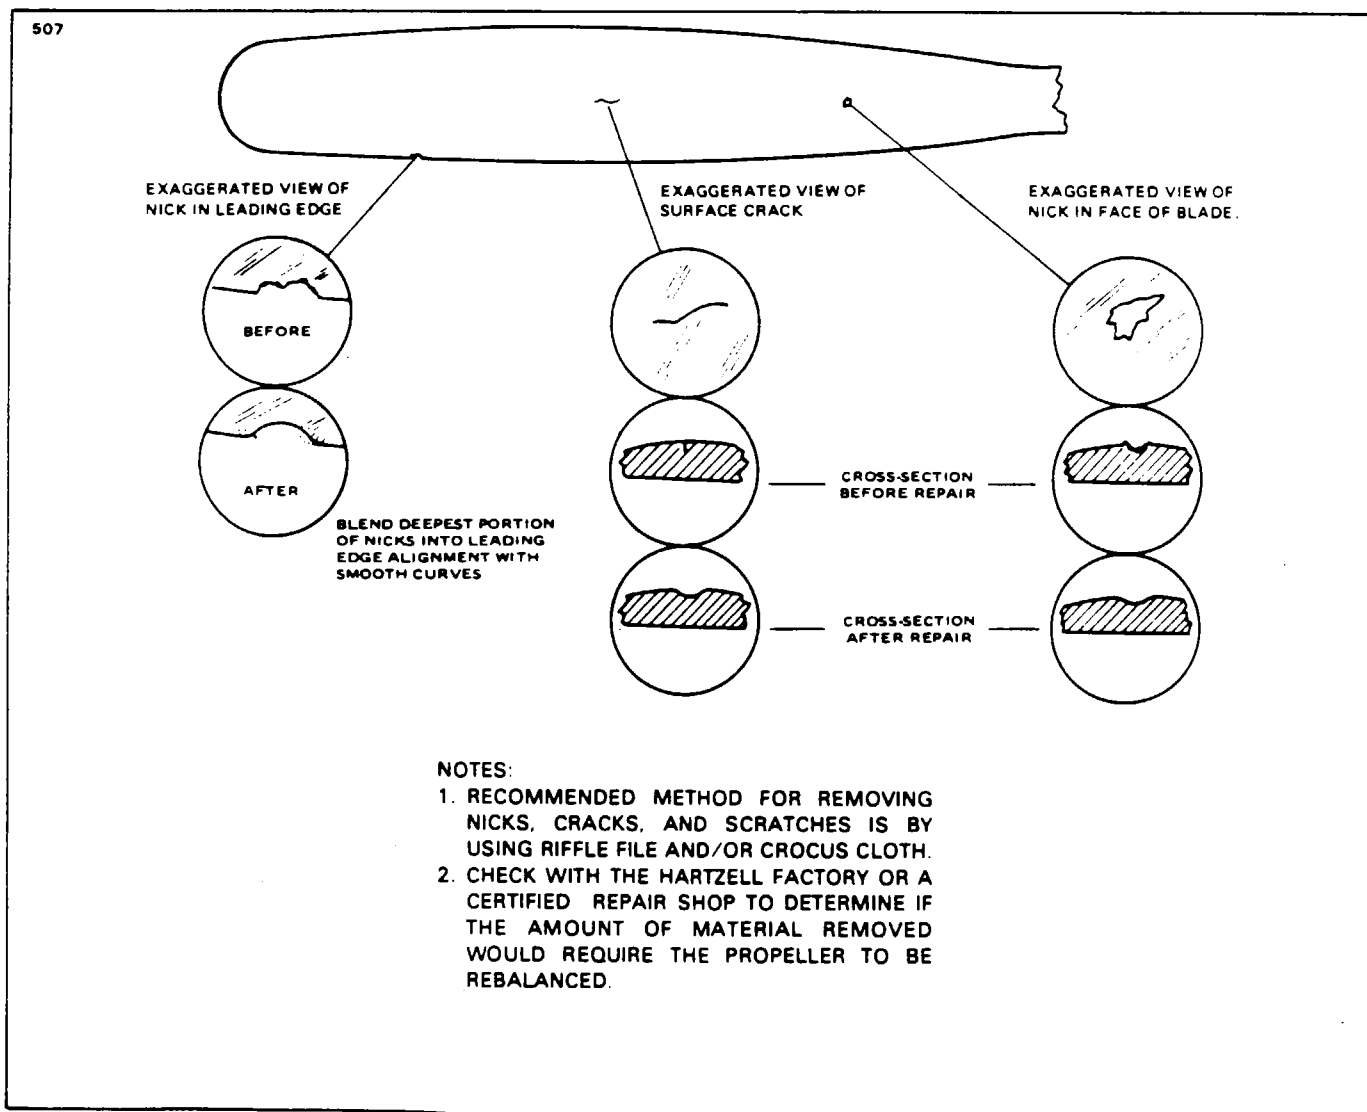

Figure 61-2. Typical Nicks and Removal Method
5. Inspect blades for damage or cracks. Nicks in the leading edges of blades sometimes provide the conditions that allow fatigue cracks to start, and should be filed out and all edges rounded. Use fine emery cloth for finishing. Refer to Figure 61-2 for propeller blade care.